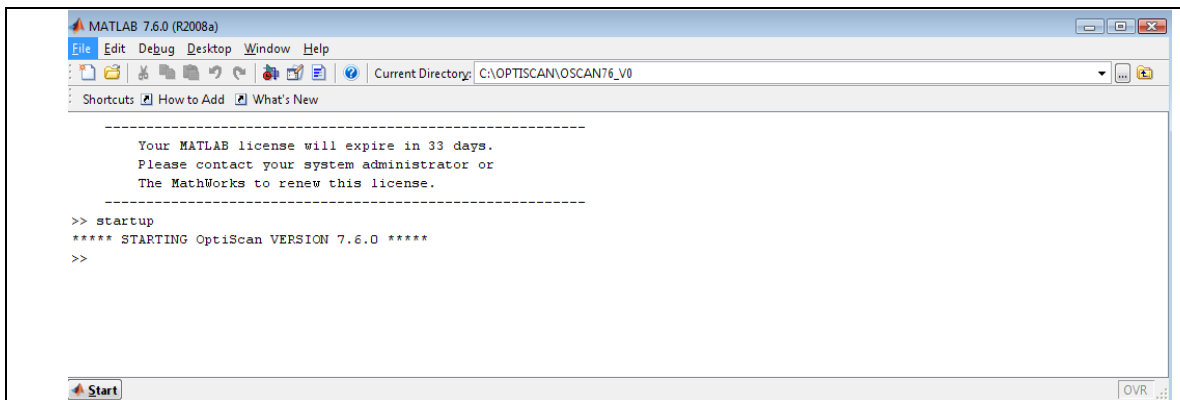

Figure 1. Starting OptiScan in Matlab.
- 2.) Select the directory that contains the OptiScan *startup.m* file. See Figure 1 below that was produced for my PC in the “Current Directory” menu item.
- 3.) Enter “startup” as shown in Figure 1.